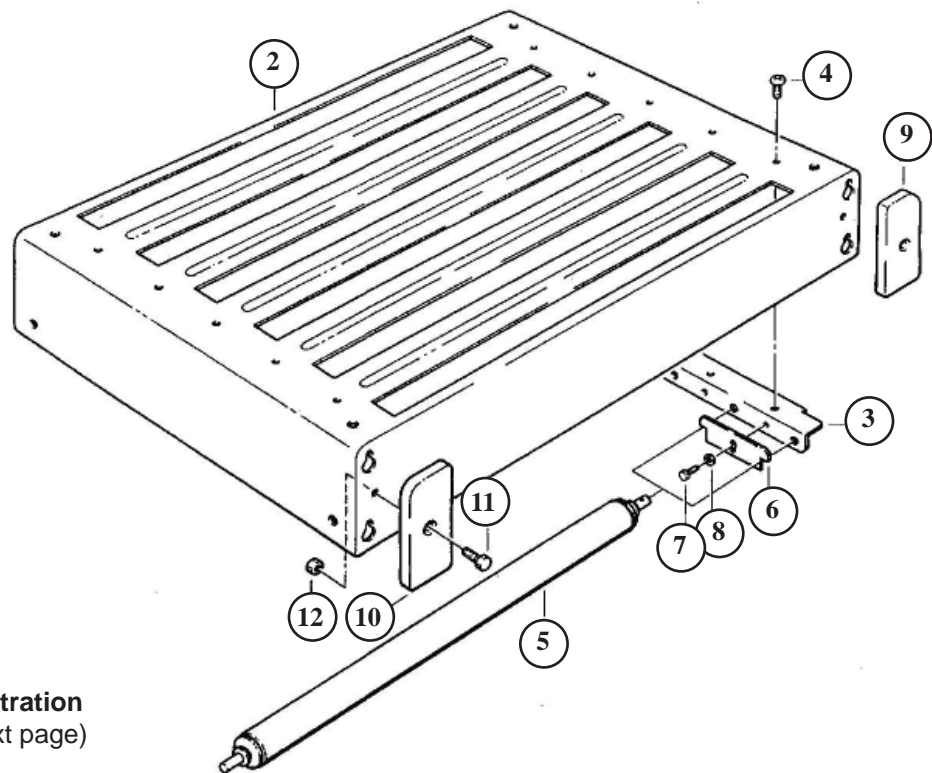

Figure 3—Parts Illustration
1. Refer to **Figure 3** to find the required part and reference number.